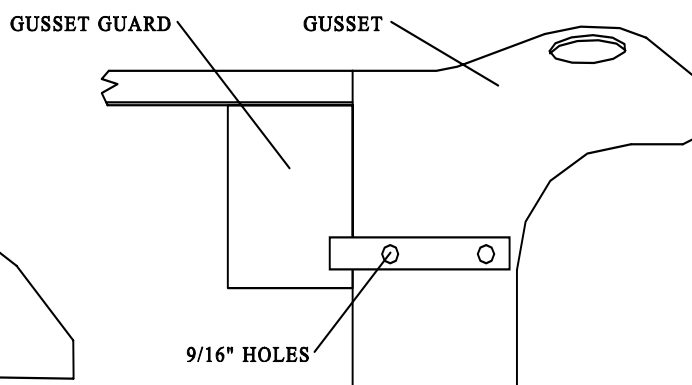

Figure 2
Step 2. Position right gusset guard on right gusset such that it is against the gusset and fender as shown in Figure 2.